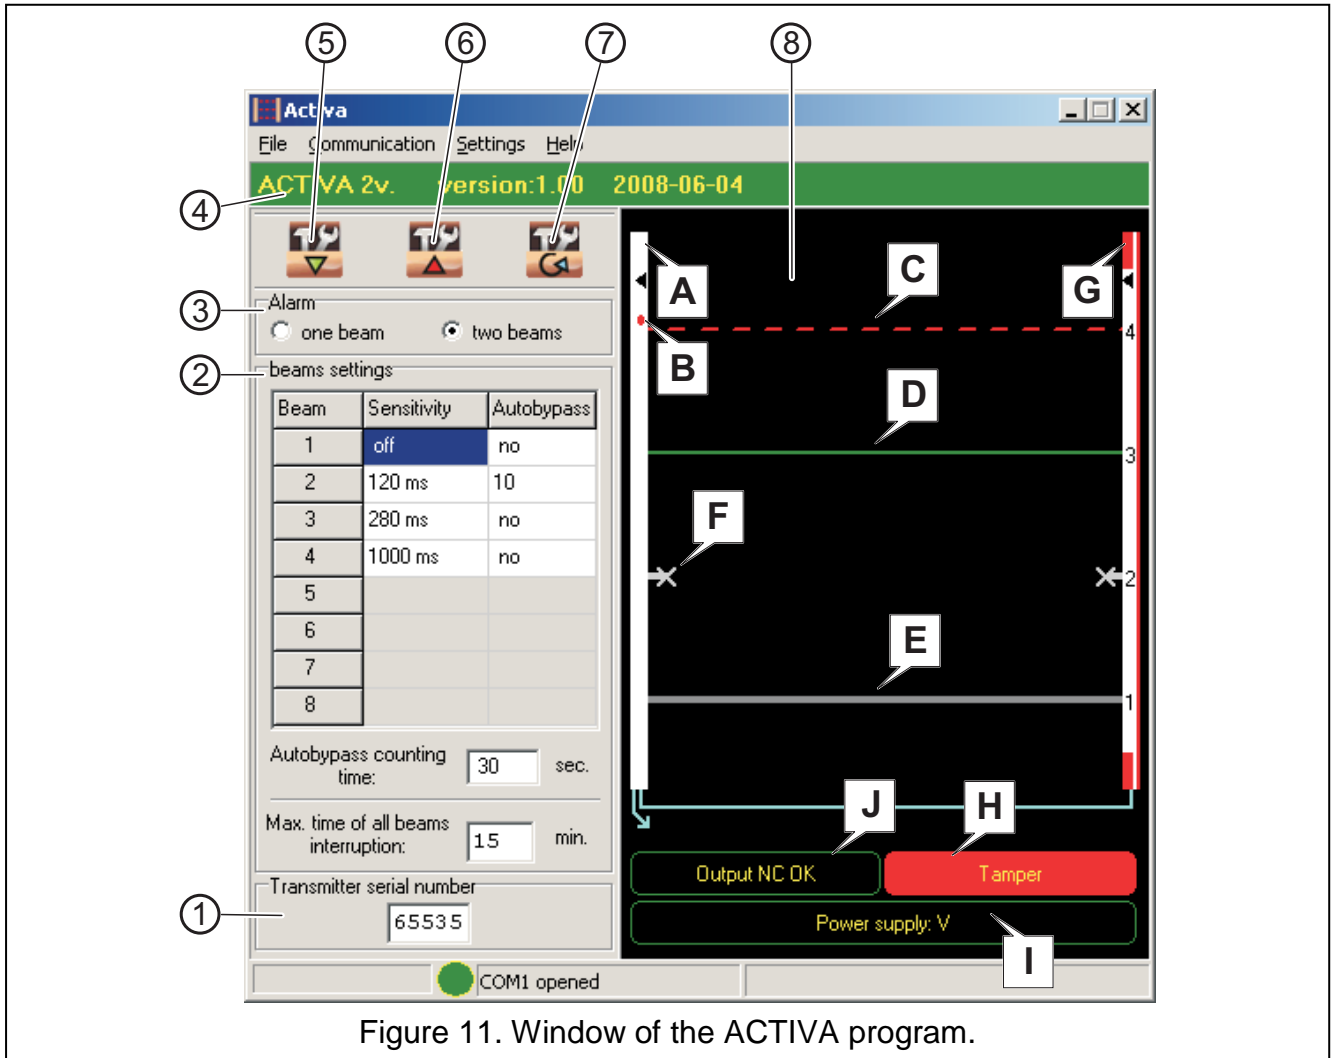

Figure 11. Window of the ACTIVA program.
Explanations for Figure 11:
- G** Transmitter. Red color (as in Figure 11) means that the transmitter tamper input has been violated,
- Tamper (as in Figure 11).
- Output NC OK (as in Figure 11),